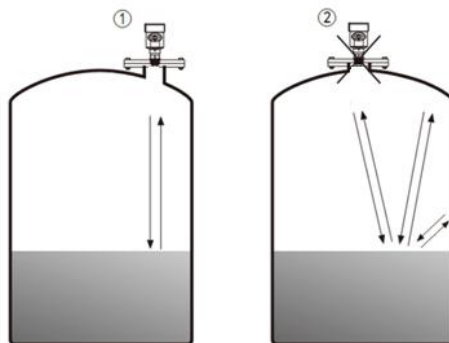

Figure 6
2.2 Instruments cannot be installed in the middle of arched or circular tank tops. In addition to generating indirect echoes, it is also affected by multiple echoes. Multiple echoes may have a signal threshold greater than the true echo, as multiple echoes can be concentrated through the top and cannot be installed in the center position. (As shown in Figure 6).